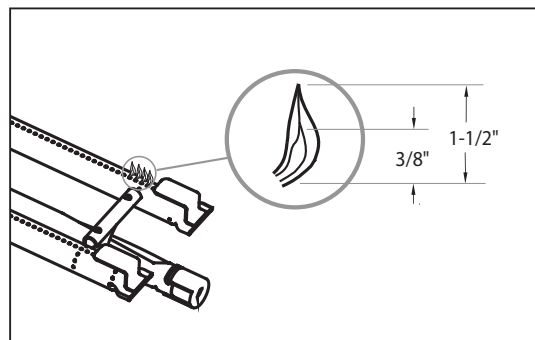
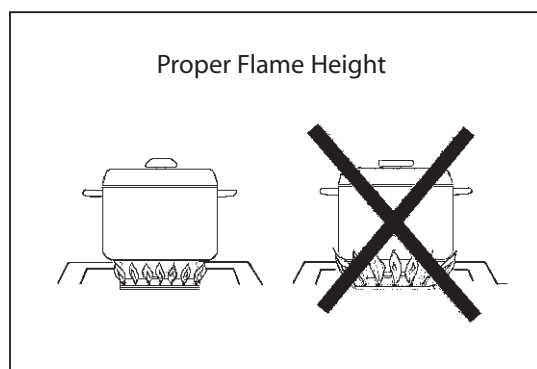

FIG. 07 Burner Flame Height
Fig. 08
To access the grill burner air shutters first remove the valve panel by removing it the same way as described on page 12, section "Before Testing". With a screw driver, loosen the lock-screw on the face of the air shutter. Light the burner and adjust according to the directions (Fig. 07).
- For safety reasons the flame must never extend beyond the bottom of the cooking utensil. Never allow flames to curl the side of the pan (see Fig.08).
Each grill burner is tested and adjusted at the factory prior to shipment; however, variations in the local gas supply or a conversion from one gas to another may make it necessary to adjust the burners. The flames of the burners (except the rotisserie burner) should be visually checked and compared to that of the drawing in Fig.07 and Fig. 08. Flames should be blue and stable with no yellow tips, excessive noise or lifting. If any of these conditions exist, check if the air shutter or burner ports are blocked by dirt, debris, spider webs, etc. Proceed with air shutter adjustment. The amount of air which enters a burner is governed by a sheet metal cup at the inlet of the burner called an air shutter. It is locked in place by a set screw which must be loosened prior to lighting the burner for adjustment.